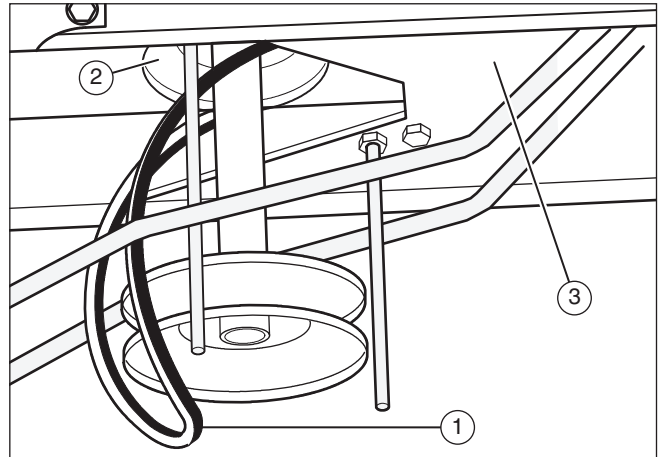

Figure 34
8. To remove the motion drive belt (1) from the stack pulley (2), pull the front end of the belt under the stack pulley and then back between the stack pulley and the steering plate (3) (see **Figure 34**).
2. Pull the belt retainer (1) away from the idler pulley (2) and remove the mower drive belt (3) (see **Figure 34**).